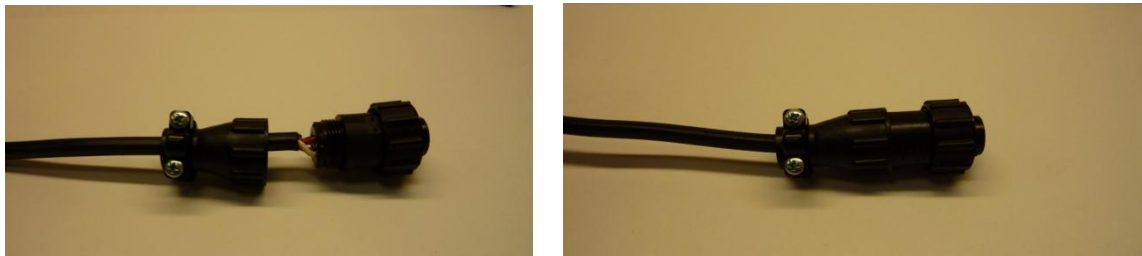

Figure 31: Completed Power Connector Assembly
- Step 9: Complete the assembly by screwing the plug into the circular socket connector and secure with the cable clamp by tightening the two strain-relief screws using a Phillips screwdriver. The completed assembly is shown in Figure 31.